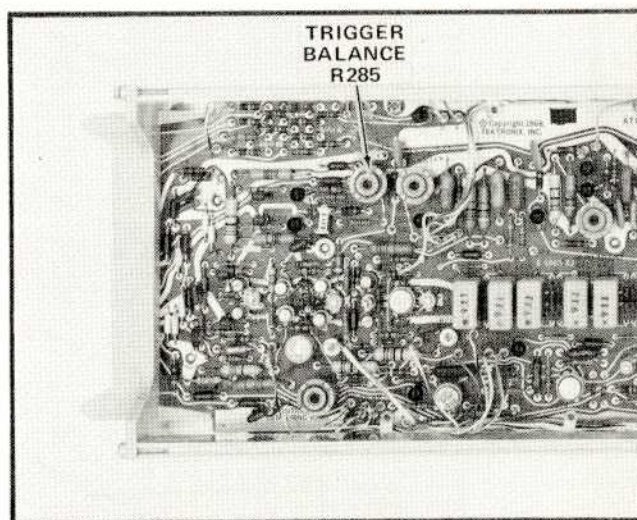

Fig. 5-19. TRIGGER BALANCE adjustment location, step 17.
i. (Calibration Procedure only.) ADJUST—TRIGGER BALANCE R285 (Fig. 5-19) as necessary to set the trace on the Sampling System CRT to graticule center.